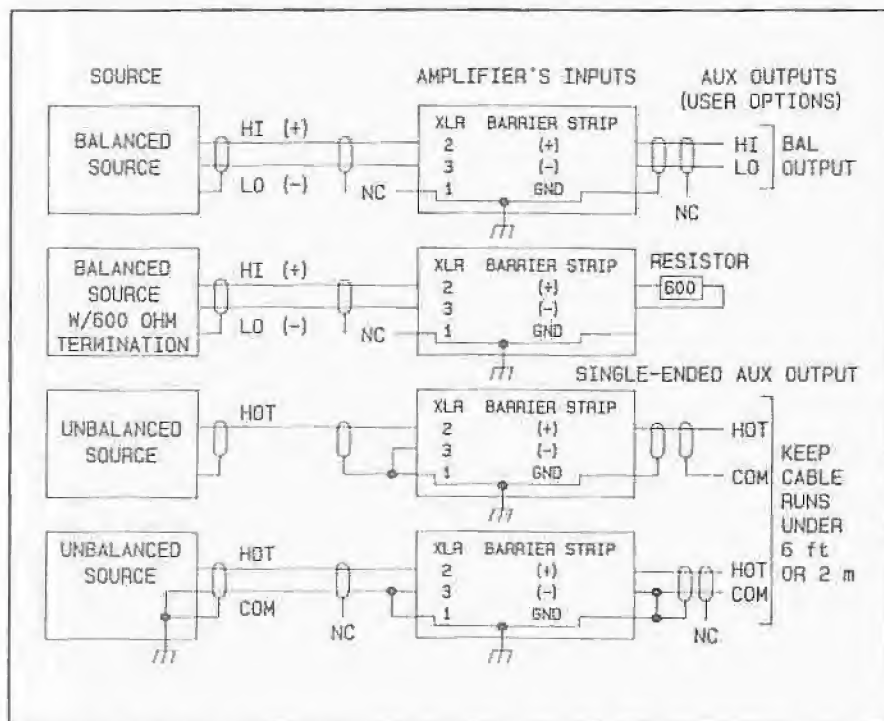

Figure 3 Typical Input Connections
Balanced input connections may be made to either the 1/4" phone (TRS) or the female XLR connectors. For single-ended inputs, strap the low (—) input to ground (pin 3 on XLR or Ring on 1/4" phone). Otherwise, the electronically-balanced input stage will see 6 dB less input signal level than with a balanced input. Refer to Figure 3 for typical input connections.
ment. Refer to Figure 3 for possible applications.
2. Verify that the input connections are properly made. Refer to Figure 3.